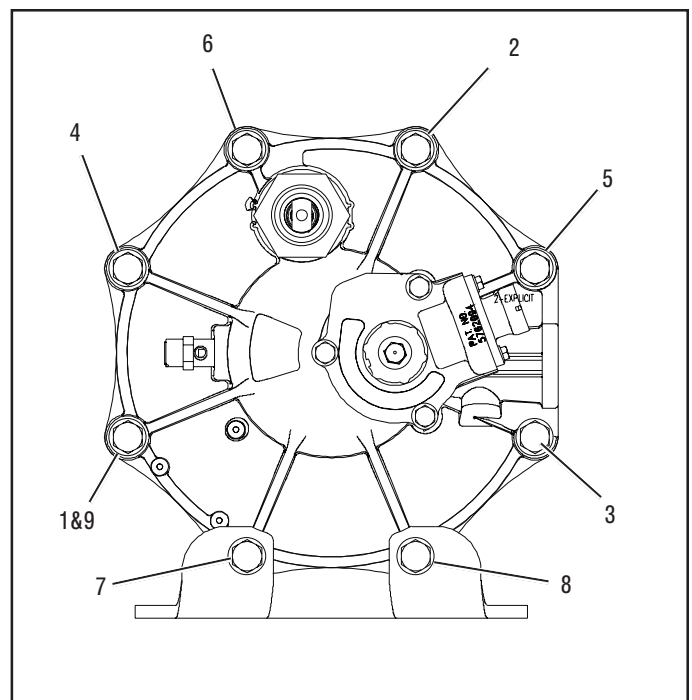

FIGURE 8 - END COVER TO HOUSING TORQUE PATTERN
3. Install the desiccant cartridge o-ring (21) in its groove in the end cover. Using a light coat of lubricant (included in kit), lubricate the bottom of the desiccant cartridge in the area that will contact the o-ring (21) and end cover. Screw the desiccant cartridge into the end cover until contact is made between it and the o-ring. Using a strap or chain wrench positioned 2-3" from the bottom of the cartridge, turn the desiccant cartridge clockwise 180-225 degrees beyond the position where initial contact was made between the cartridge and end cover o-ring. Torque should not exceed 50 ft. lbs.
4. Install the end cover outer housing o-ring (23) on the shoulder in the end cover. Place the housing (24) over the desiccant cartridge and align the holes. Install the six 3/8" cap screws (16), lock nuts (19) and twelve special washers (17) making certain they are in the proper position as marked during disassembly. The two longer 3/8" cap screws (18) will be used to secure the AD-9™ air dryer to its mounting bracket. Tighten the six cap screws and nuts in a star pattern in a fashion similar to Figure 8; depending on lower bracket location. Torque to 270-385 in. lbs. (Refer to Fig. 8.) **Note:** The two remaining bolt holes in the end cover and two 3/8" cap screws must be the ones marked during disassembly to assure proper orientation of the ports and adequate length of the cap screws.